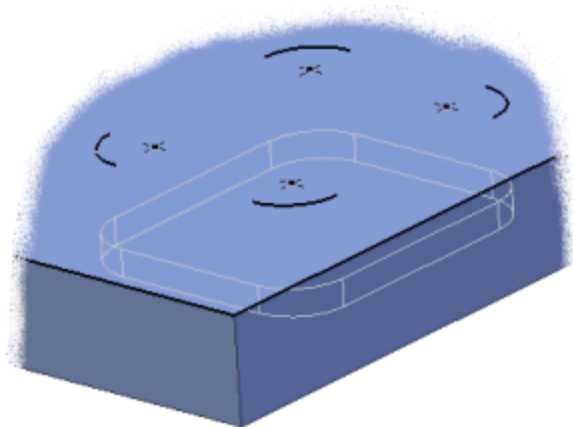

Figure 8: Four projected arcs.
6. Project the other three cut arcs and place a hole center point at the center of each projected arc. Your sketch should match the one shown in Figure 8.